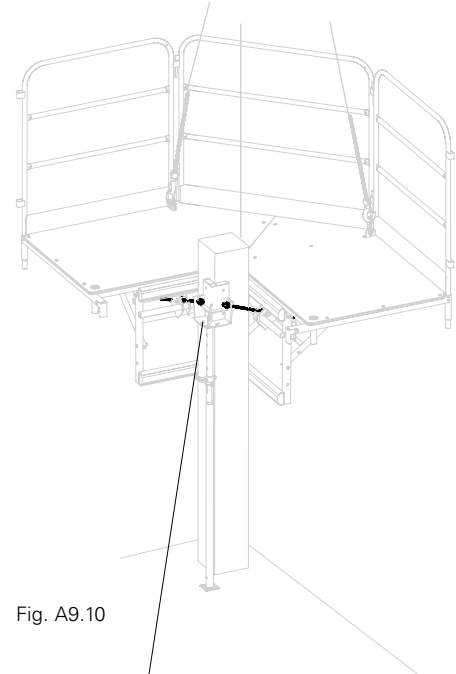

Fig. A9.10
5. Adjust corner platform and slab prop to the same height and tighten tie rods (9.3), AF 24. (Fig. A9.10)